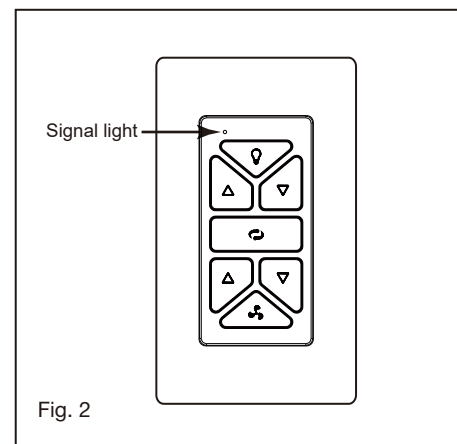

Fig. 2
2. Make wire connections from the fan to the receiver unit. For this step use the bundle of 3 wires on the receiver. (Fig. 2)
- 1 Locate 9 blade attachment screws. Slide one blade onto the motor as shown in Fig.2, aligning holes in blade with holes on the edge of the motor.
- 2 Seat the cradle A into the wall plate. (Fig. 2)
- 6 Signal light (Fig. 2)